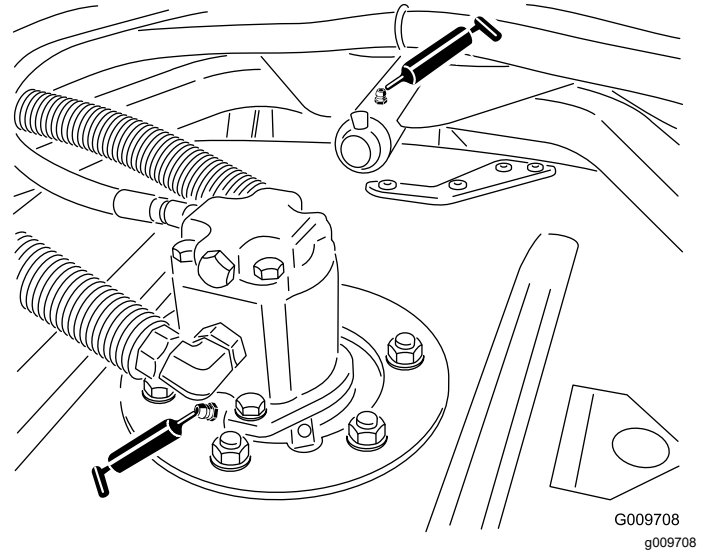

Figure 47
- Cutting-unit spindle-shaft bearings (2 per cutting unit) as shown in Figure 47
- Cutting-unit carrier-arm bushings (1 per cutting unit) as shown in Figure 47